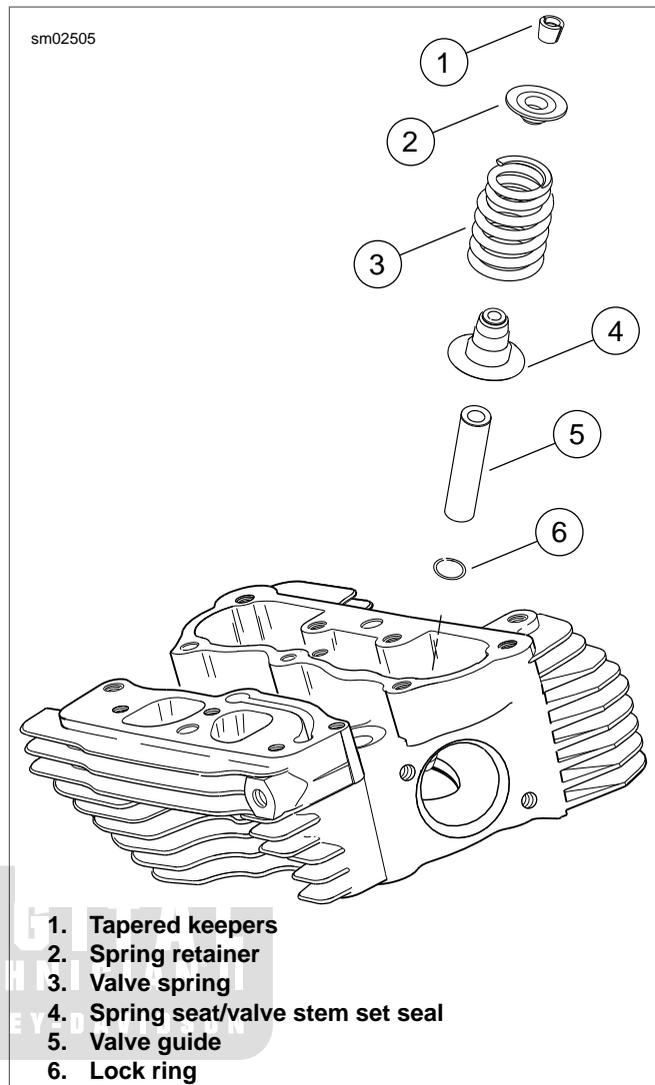

Figure 3-94. Valve Assembly
11. See Figure 3-94. Apply a liberal amount of assembly lube to valve stem tip and keeper groove (1).
12. With the smaller diameter coils topside, install the valve spring (3) over the valve guide (5). Place the spring retainer (2) on top of the valve spring.